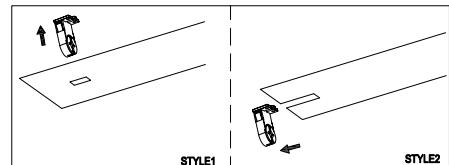

Figure 3
**STEP 3:** Remove existing lamp holder. See Figure 3.